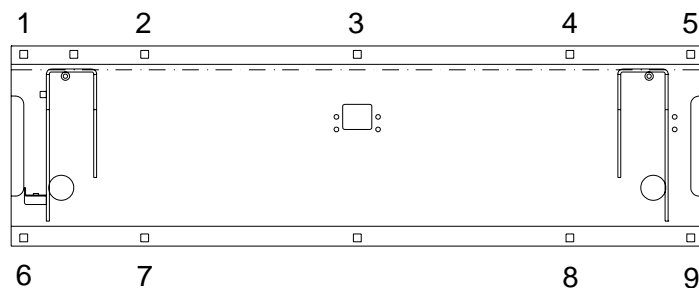

FIGURE 2-5: VAN BASEPLATE HOLES
- 1) Refer to **Figure 2-5**. Mark and drill five 25/64" baseplate mounting holes (1, 2, 3, 4, and 5) through vehicle floor. (On Dodge and GM vans, you must drill through vehicle floor and subframe).